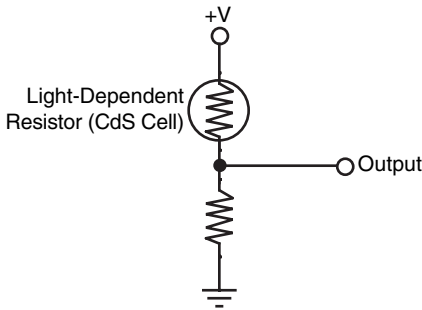

FIGURE 14-20 CdS cell voltage divider.
Figs. 14-20 and 14-21 are two basic, common interfaces for analog inputs. These can be connected to analog-to-digital converters (ADC), comparators, buffers, and the like. The most common interfaces are as follows:
- CdS (cadmium-sulfide) cells are, in essence, variable resistors controlled by light and not a mechanical wiper. By putting a CdS cell in series with another resistor between the +V and ground of the circuit (Fig. 14-20), a voltage divider varying voltage is provided that can be read directly into an ADC or comparator. No amplification is typically necessary.
- Like a phototransistor, the output of a photodiode is a varying current. This output can also be converted into a voltage by using a resistor (see Fig. 14-20). (The higher the resistance, the higher the sensitivity of the device.) This output tends to be fairly weak—on the order of millivolts instead of volts. Therefore, amplification of the output analog voltage is usually required.